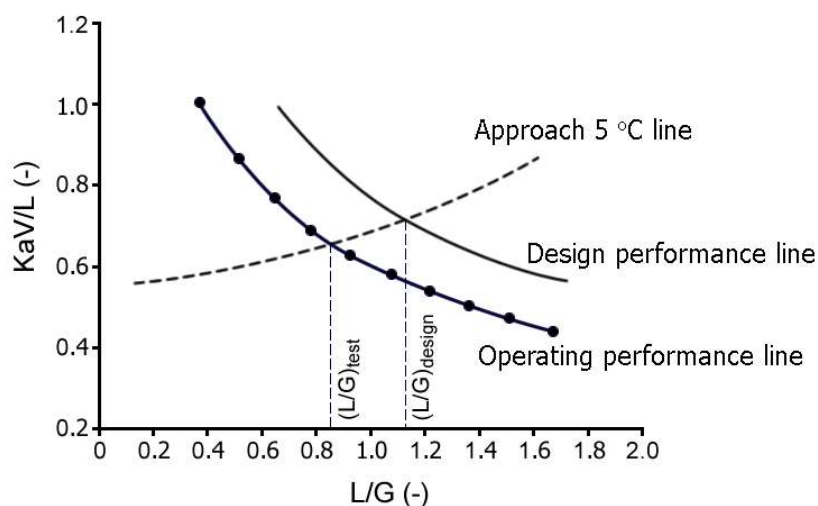

Figure 6 The comparison between $(L/G)_{design}$ and $(L/G)_{test}$ for cooling tower capability estimation
plotting tower characteristic term (KaV/L) versus loading capacity, L/G compares with the Approach line of 5 °C plotting. The obtained intersection on this plot is cooling tower capability. If tower characteristic term is defined by cooling tower manufacturer, the intersection point or so called “Design point” where provides the value of $(L/G)_{design}$. During operating of cooling tower, the tower characteristic term also can be determined by applying Eq. (4) with varying loading capacity ratio, L/G . The intersection point shows “working test point” at $(L/G)_{test}$ as shown in Figure 6. After that the cooling tower capability can be estimated by applying Equation (6) as below;